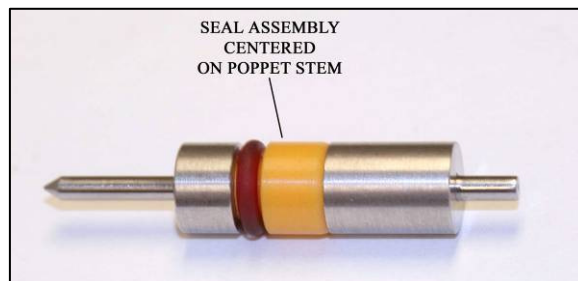

Figure 6
15. The seal assembly should be centered as much as possible on the stem. **See Figure 6**